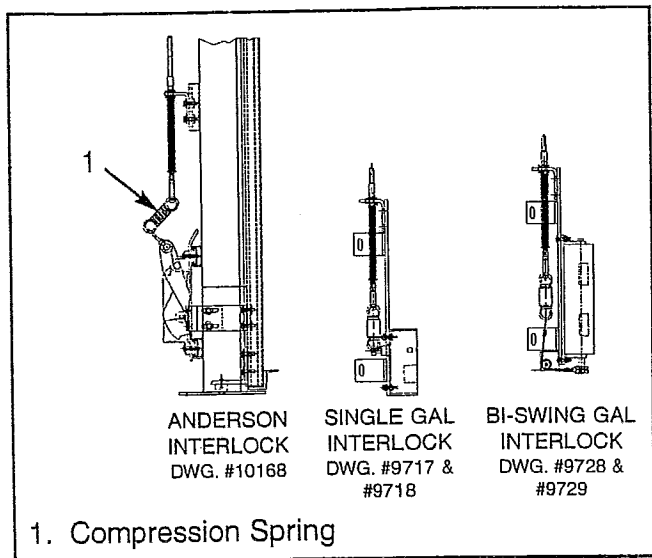

Figure 4
1. The tension on the compression spring should be adjusted by positioning the cable on the angle bracket. The activation of the interlock is also adjusted by the position of the set collar. See Figure 4.